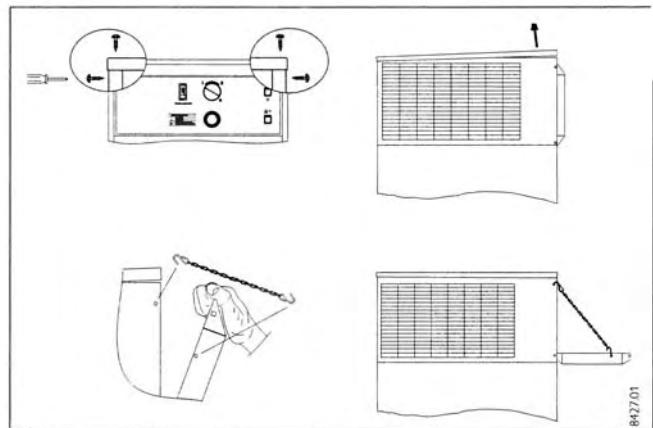
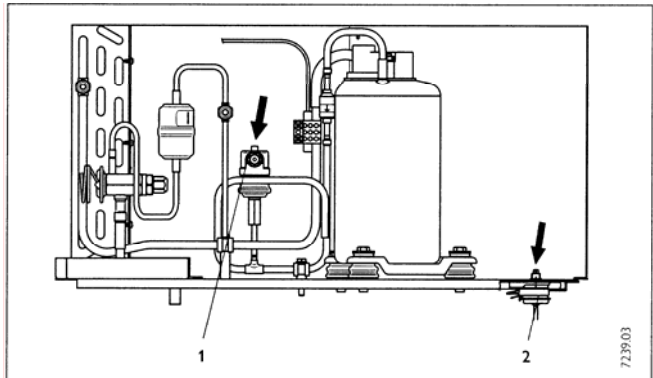

Fig. 2
Fig. 3
This will shut the equipment down if the DHW temperature exceeds 95°C. Reset the high limit safety cut-out by pressing the reset button (item 2, Fig.3) after the cause of the fault has been removed. For this, open the equipment as shown in Fig.2.
The safety high pressure limiter shuts down the compressor if the pressure inside the refrigerant circuit exceeds the permissible maximum value. The safety high pressure limiter may also respond if the WWK 300 is operated above its permissible limit (>35°C exhaust temperature). Reset the safety high pressure limiter by pressing the reset button (item 1, Fig.3) after the cause of the fault has been removed. For this, open the equipment as shown in Fig.2.